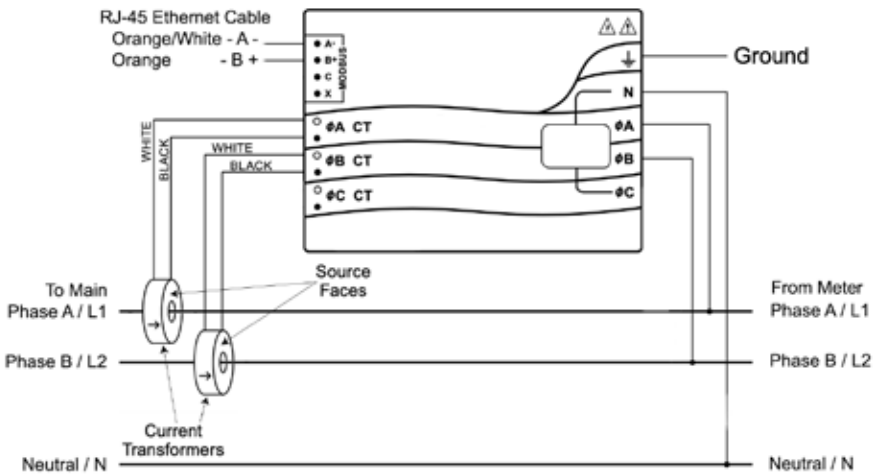

Figure 1: US Single-Phase Three-Wire with Neutral
The screw terminals handle wire up to 12 AWG. Connect each voltage line to the green terminal block as shown in **Figure 1** above. After the voltage lines have been connected, make sure both terminal blocks are fully seated in the meter.
Install the CTs around the conductor to be measured and connect the CT leads to the meter as shown in **Figure 1** above.
The current transformers connect to the six position black screw terminal block. Connect the white and black CT wires to the meter terminals marked **ØA CT** and **ØB CT** (see **Figure 1** above). Excess length may be trimmed from the wires if desired. Connect each CT with the white wire aligned with the white dot on the label, and the black wire aligned with the black dot. Note the order in which the phases are connected, as the line voltage phases **must** match the current phases for accurate power measurement.
- ❑ Plug the 4-pin black connector into the RS-485/Modbus socket on the PowerMeter (see Figure 1).